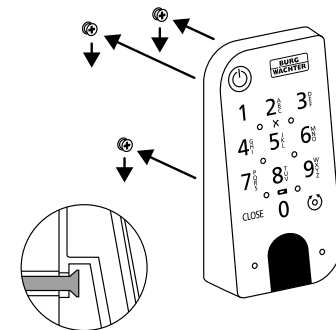

Fig. 4
- 4 Place the keypad on the screw heads as shown in the illustration (Fig. 4).